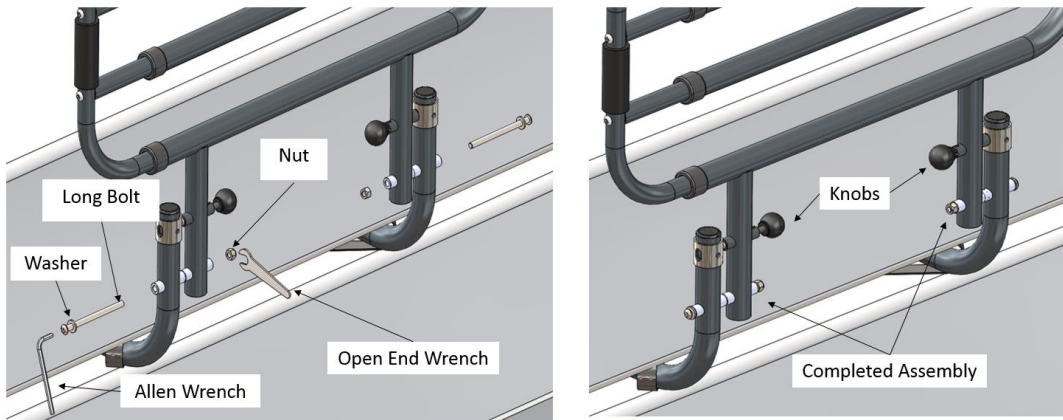

FIGURE 7
7. Secure the MAIN HANDLE to the BASE TUBES with LONG BOLTS, WASHERS, and NUTS as shown in Figure 7.